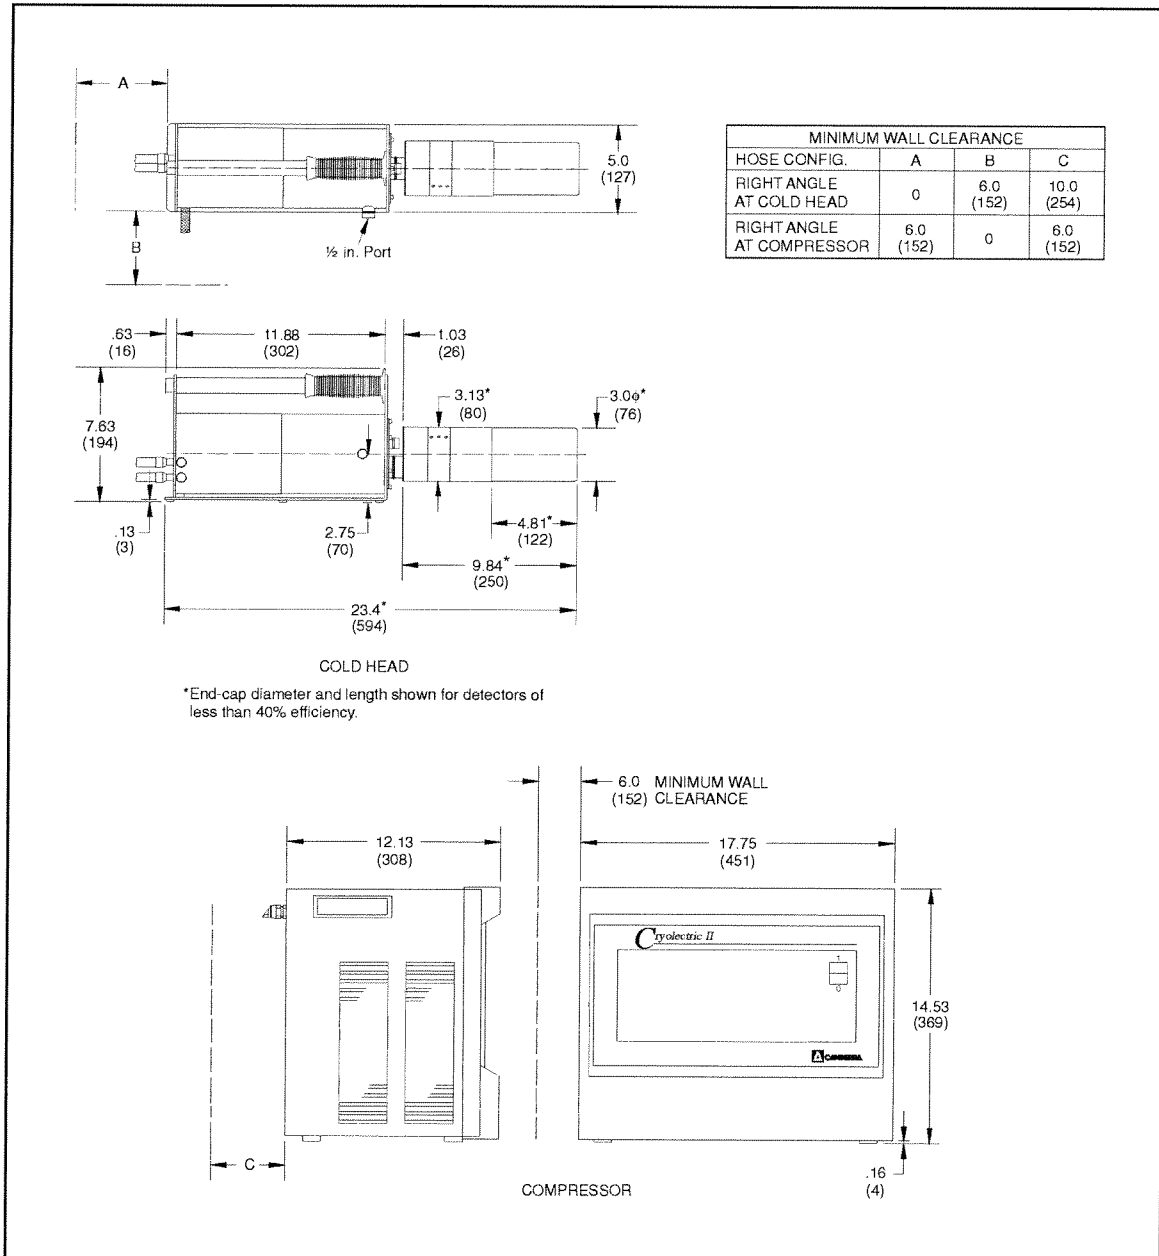

Figure 30 Cryoelectric II Dimensions
The Canberra Cryoelectric II Cryostat is a refrigerating system for cooling semiconductor detectors. The system comprises a compressor which operates on electric power and a cold head which is built into a detector assembly. The compressor and cold head are connected by flexible metal refrigerant hoses. The refrigerant is a proprietary CFC-Free mixture of gases, one component of which is flammable. Each system contains less than 100 grams of the flammable component which allows it to be shipped by air freight. A manufacturer's safety data sheet (MSDS) is available from Canberra for the asking. Refer to Figure 30 for more information.
11. The system is now ready for operation. Observe the space requirements necessary for proper ventilation of the compressor. (Figure 30 on page 37)